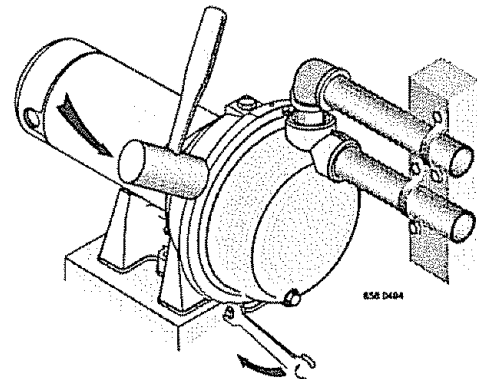

Figure 26 – Tap Clamp While Tightening
3. **BE SURE** inside of clamp is clean. Place clamp on pump halves; snug up. Alternately tighten screw and tap clamp with mallet to seat O-Ring (see Figure 26).